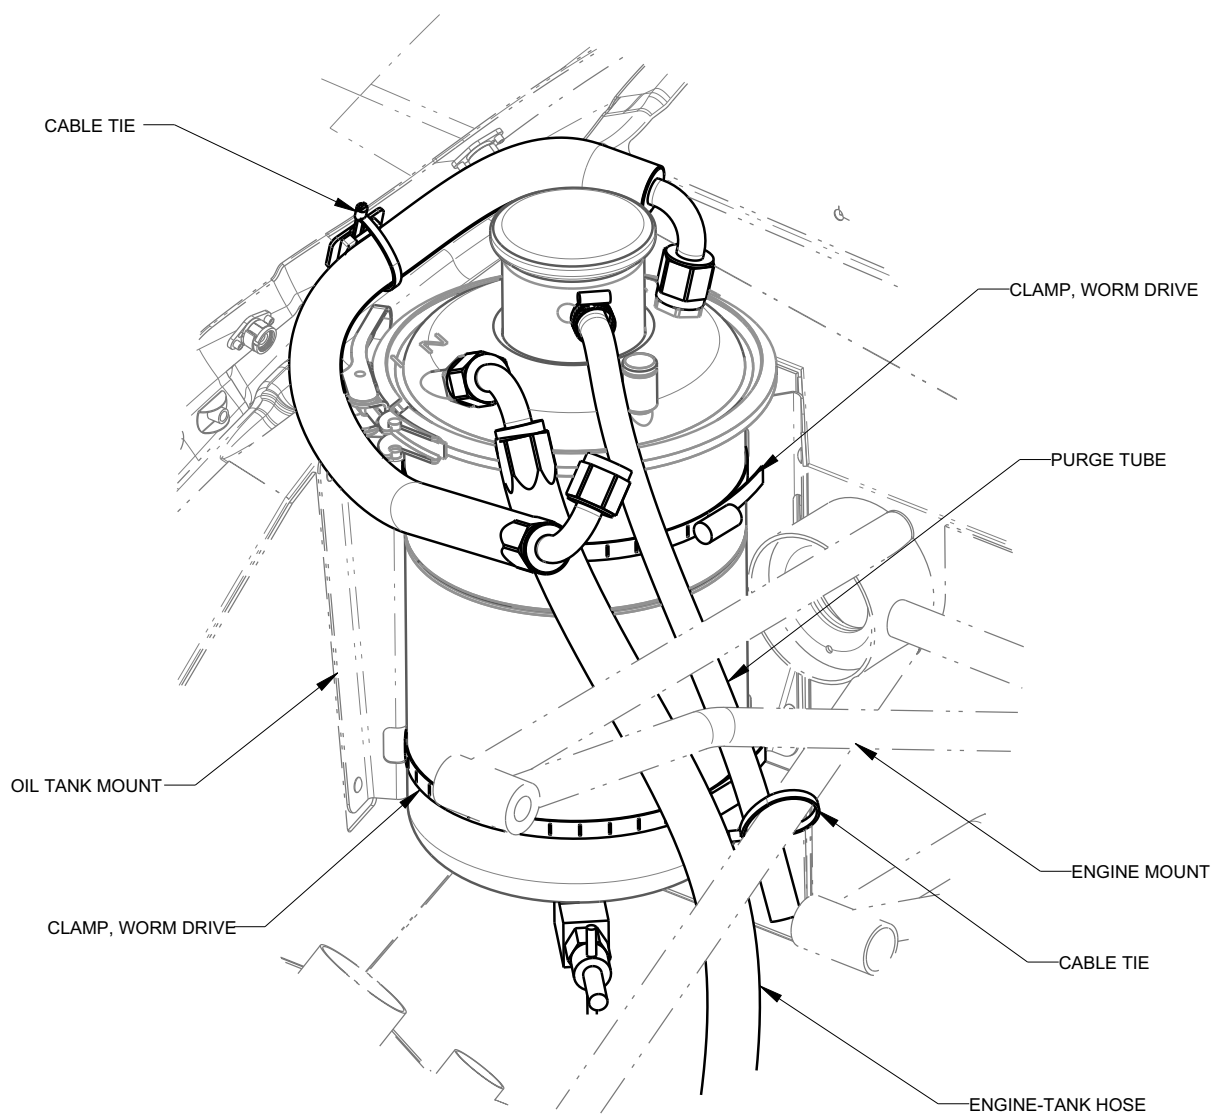

FIGURE 16-47
6. Cut the cable tie securing the reservoir-thermostat hose shown in Figure 16-47.